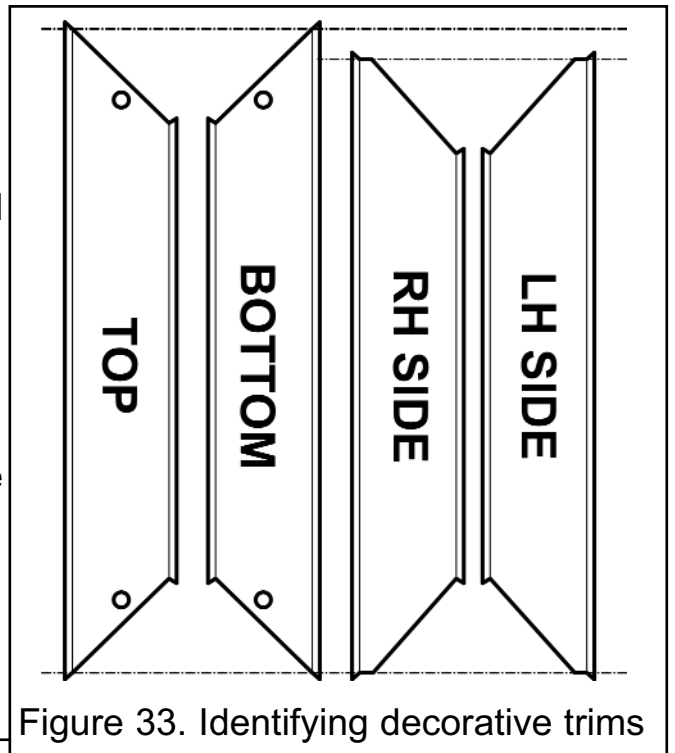

Figure 33. Identifying decorative trims
3. The fascia decorative trim is made up of four sections. A bottom and top section of equal length and two shorter sections of equal length that are the side sections. These can be identified as in figure 33.